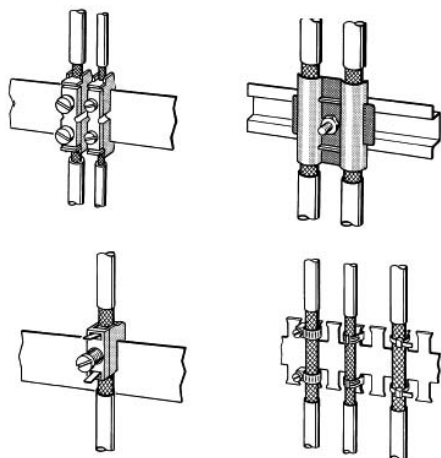

Figure 5-2 Securing shielded cables with cable clamps and cable retainers (schematic image)
- The clamps must surround the shield making good contact over a large area (see Figure 5-2).